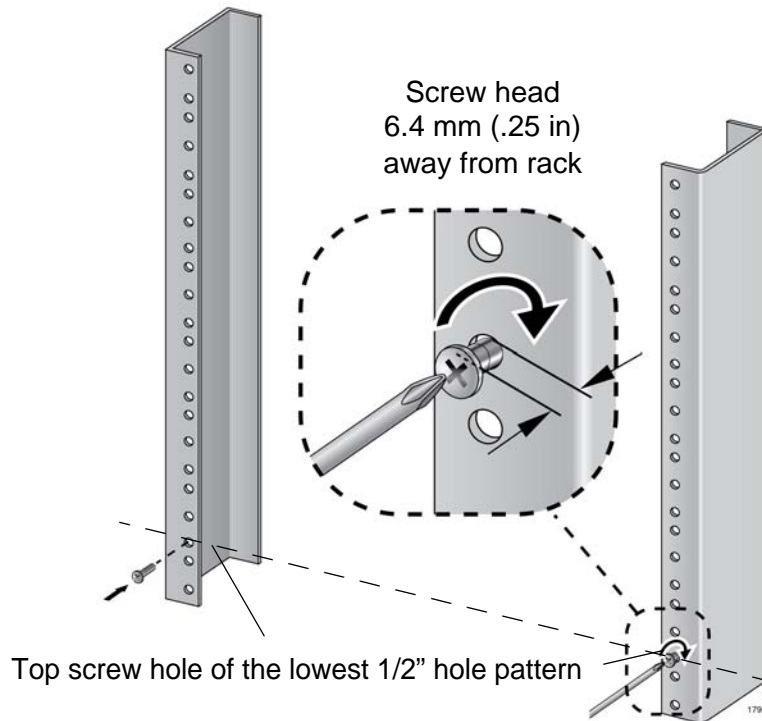

Figure 35. Rack Mounting Hole Locations
4. Install one rack mount screw in each vertical rail, at the same height in the top screw hole of the lowest 1/2" hole pattern, as shown in Figure 35. The screws are used to support the chassis while you secure it to the rack. Do not fully tighten the screws at this time. The screw heads should protrude from the rack approximately 6.4 mm (.25 in).